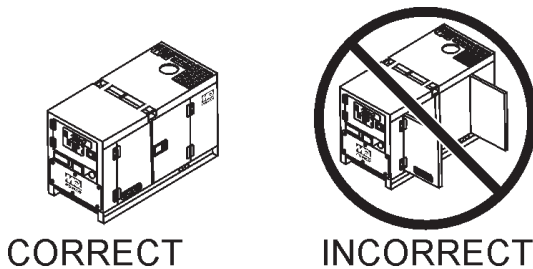

Figure 21. Engine Enclosure Doors
4. Close all engine enclosure doors (Figure 21).